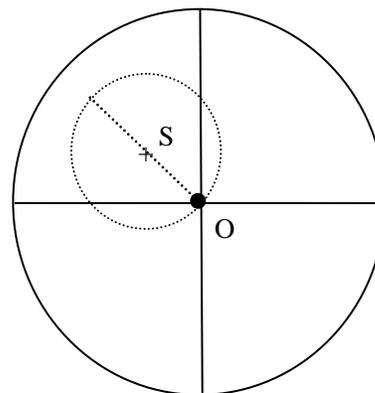

Fig.17
the rotation of the stage, then, the target selected will rotate about certain center “S” (that is the rotating center of the stage), the trajectory of which is a circle (see Fig.17)
- 9) After the stage has been centered, turn another objective into optical path and following the above procedures. The only difference is that you should adjust the centering screws of objective (see Fig.6) this time to move the point “O” toward the point “S” and coincide with it (see Fig.17). Following these procedures to align each objective with the stage.